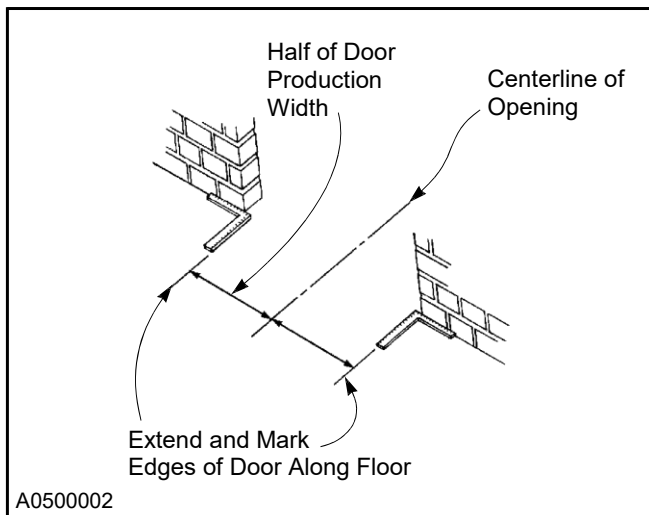

Figure 8
2. Using the centerline as a reference point, lay out and mark half of the door's production width along the floor. (See Figure 8)